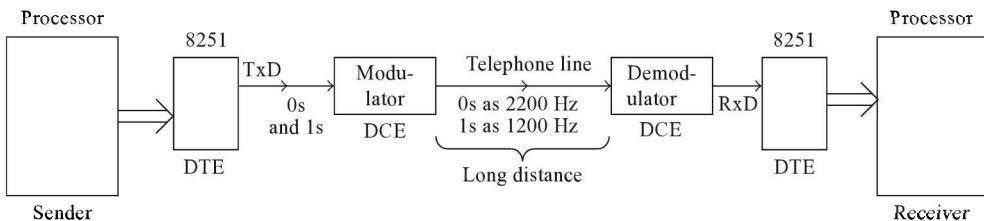

Fig. 26.8 Use of modems for transmission over long distances
**Modem control pins:** The use of 8251 relieves the processor from the time consuming parallel to serial conversion during transmission, and serial to parallel conversion during receive operation. However, sending information over a long distance on a single line will be expensive, unless the existing cable network, like telephone network, is used for communication. In such a case we have to use audio frequencies. So a MoDem (modulator–demodulator) working as a modulator is used for converting a logic 0 to an audio frequency of 2200 Hz and a logic 1 to another audio frequency of 1200 Hz, and transmitted over a carrier on the telephone network. At the receiving end, another modem, working as a demodulator, converts these frequencies back to 0s and 1s, as shown in Fig. 26.8.